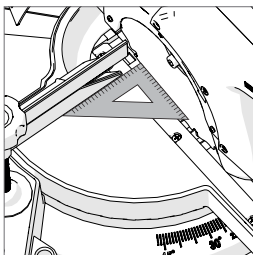

Fig. 18
- Place a Set Square on the table with one short edge against the Fence and the other short edge against the Blade (avoiding the TCT tips). **(Fig. 18)**